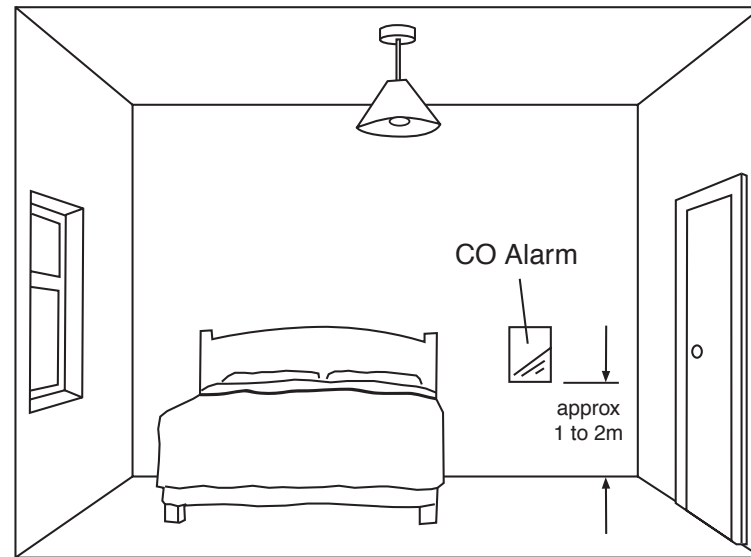

Figure 3. Location in bedroom & rooms remote from the appliance
- In rooms with sloped ceilings, the CO Alarm should be located at the high side of the room (see *Figure 3*)
3.4 IF LOCATING THE CO ALARM IN A BEDROOM OR IN ROOMS REMOTE FROM A FUEL BURNING APPLIANCE (see *Figure 3*)